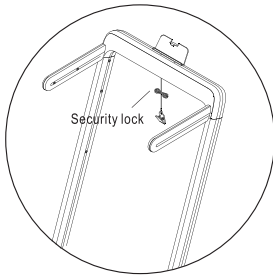
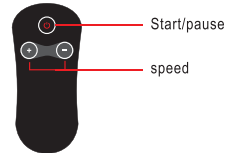

figure 1
figure 2
Bent your knees slightly and slowly bend your body to relax your back and shoulders. And try to touch your toes with your hands. Hold for 10-15 seconds, then relax. Repeat three times (see figure 1)
Sit on a clean seat cushion and straighten one leg. Bring the other leg in close to the inside of the leg. Try to touch your toes with your hands. Hold for 10-15 seconds, then relax. Repeat with each leg three times (see figure 2)
- 2、 Hold the remote control and aim it at the display window of the treadmill (as shown in FIG. 2) within 10 seconds after unplug the treadmill security lock (as shown in FIG. 1). Meanwhile, press the start/pause button on the remote control for about 3 seconds, and the system will sounds "didi..." , indicating that the remote control and treadmill have been successfully paired, and the remote control can be used to control the treadmill normally.